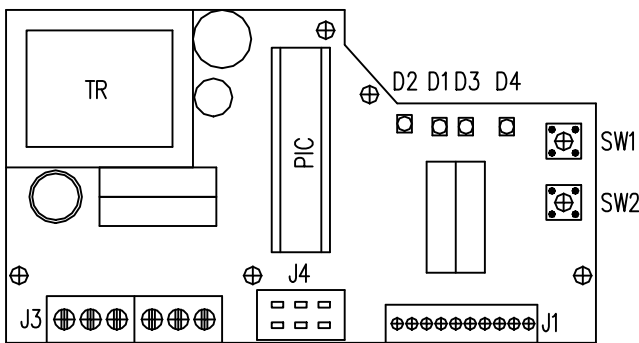

Fig.8
3.4 Adjustment of position controller (Fig. 8)
Laying of adjusters and signalling elements on the board of the REGADA controller is shown on Fig. 8: